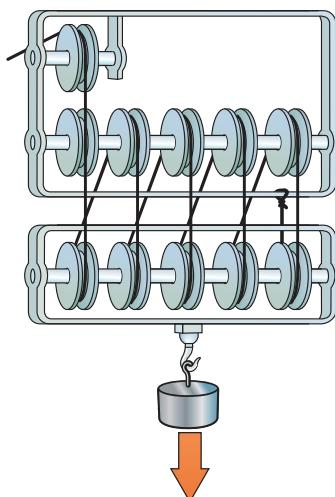

Figure 8.3.17
- 11 Use Figure 8.3.17 to answer the following.